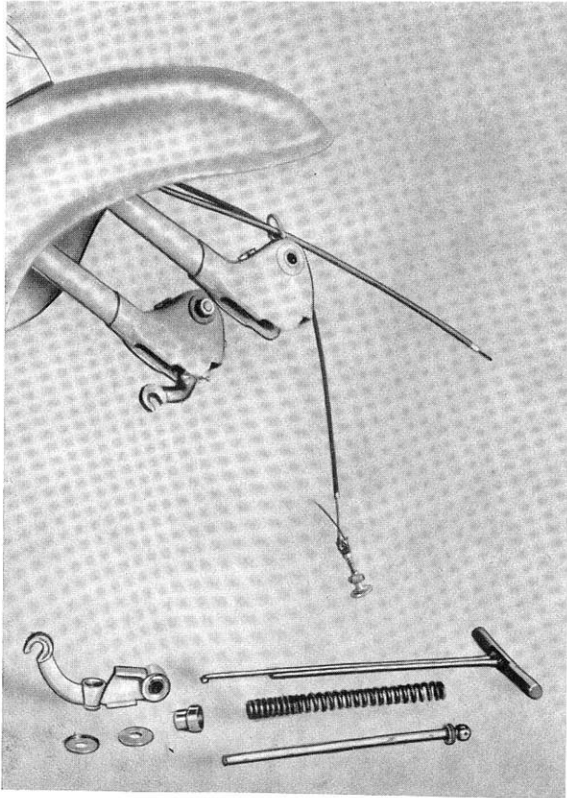

Fig. 39
- 61 Remove spring guide pistons, the springs and piston guide ring, using for the last item a hook off in case of difficulty. (See fig. 39).